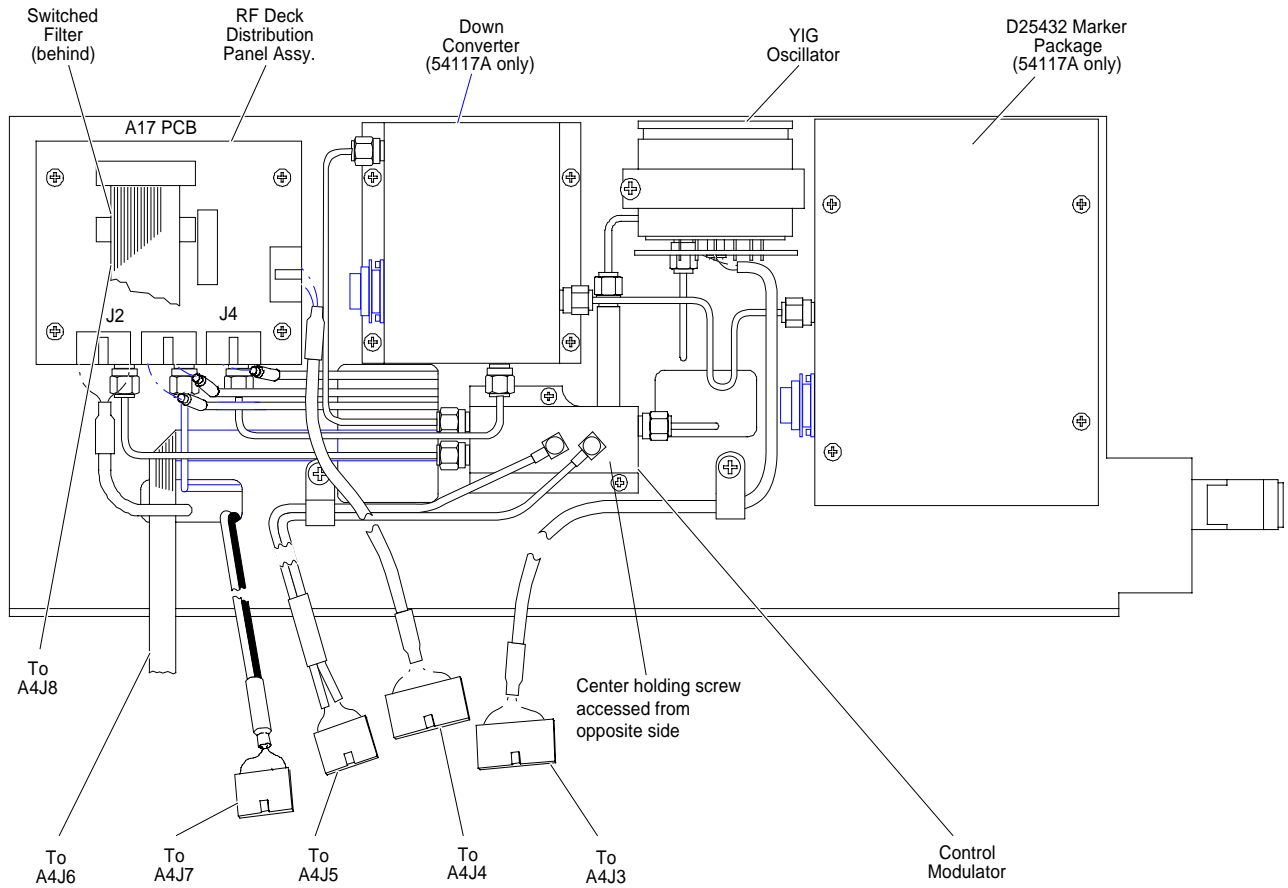

Figure 7-13. Models 54117A and 54119A RF Deck Parts Location (Internal Side Detail)
- Step 1.*** Remove the marker connection from A17J4 on the RF Distribution PCB (Figure 7-13).
- Step 1.*** Remove the connection from A17J2 on the RF Distribution PCB (Figure 7-13).
- Step 2.** Remove the D25432 Marker Package (See Figure 7-13 and procedure on next page).
- Step 1.** Remove one RF connectors and one control connector (Figure 7-13).